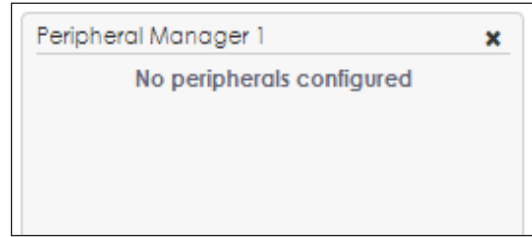

Figure 31: Add Peripheral Manager
1. Click **Add Manager**. A new **Peripheral Manager** tile appears with the message **No peripherals configured**. Refer to **Figure 31**.